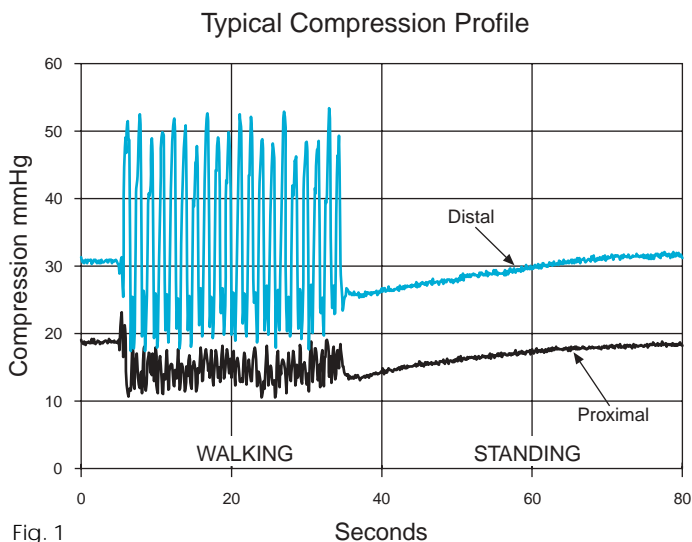

Fig. 1
- Graduated aircell compression for edema control (Fig. 1)
The PneumaticWalker Diabetic System is applied and the aircells are inflated in sequence (see instructions). The proximal aircell overlaps the distal, providing a gap-free pressure gradient. When walking, the air-cells provide pulsating, graduated compression that helps to control edema and offers exceptional support and comfort (Fig. 1).